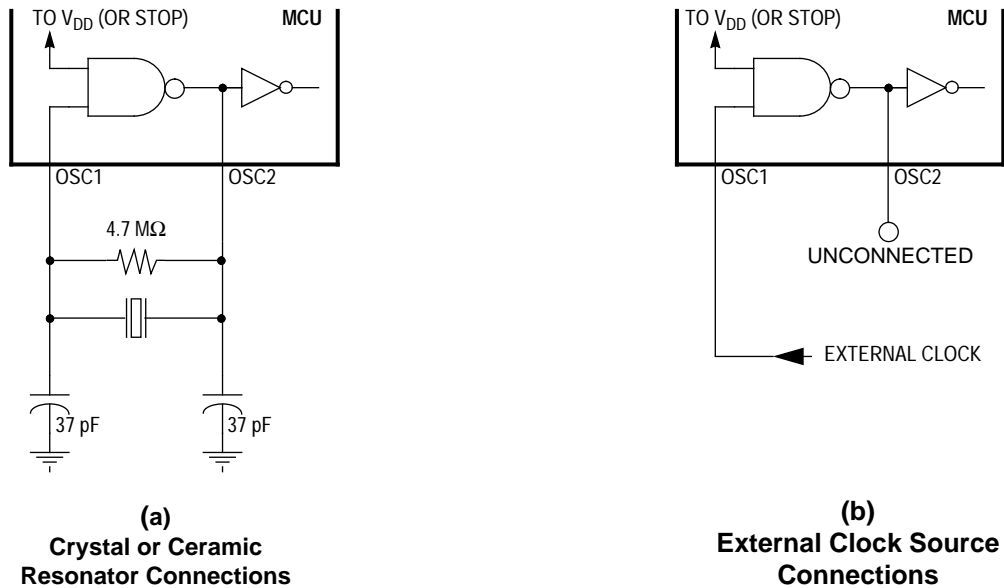

Figure 1-3. Oscillator Connections
1. A crystal as shown in Figure 1-3(a)
2. A ceramic resonator as shown in Figure 1-3(a)
3. An external clock signal as shown in Figure 1-3(b)
The circuit in Figure 1-3(a) shows a typical oscillator circuit for an AT-cut, parallel resonant crystal. Follow the crystal manufacturer's recommendations, as the crystal parameters determine the external component values required to provide maximum stability and reliable startup. The load capacitance values used in the oscillator circuit design should include all stray capacitances. Mount the crystal and components as close as possible to the pins for startup stabilization and to minimize output distortion.
In cost-sensitive applications, use a ceramic resonator instead of a crystal. Use the circuit in Figure 1-3(a) for a ceramic resonator and follow the resonator manufacturer's recommendations, as the resonator parameters determine the external component values required for maximum stability and reliable starting. The load capacitance values used in the oscillator circuit design should include all stray capacitances. Mount the resonator and components as close as possible to the pins for startup stabilization and to minimize output distortion.
An external clock from another CMOS-compatible device can be connected to the OSC1 input, with the OSC2 input not connected, as shown in Figure 1-3(b).